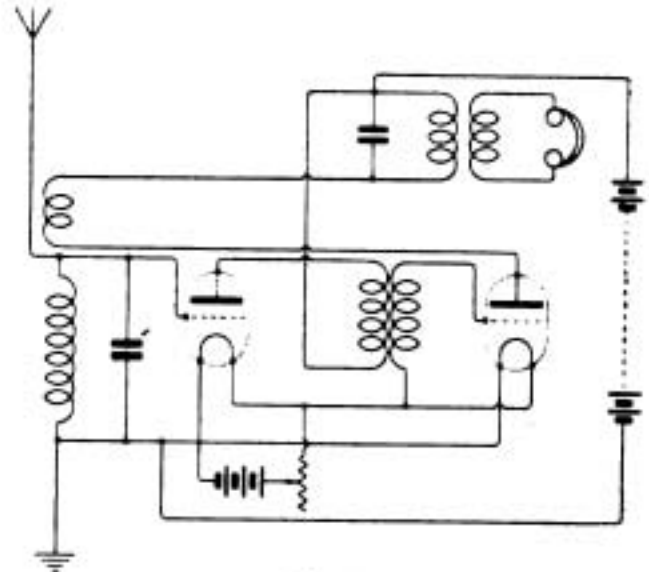

Fig. 3.
**G.A.H. (Farnborough).**—(1) Ratio of turns should be about 10-1.
(2) It is impossible to say, as carbon resistance varies considerably.
(3) We think not.
(4) The object of inserting a condenser, whether fixed or variable, in an aerial circuit, is to vary the wavelength of the circuit. It is a case of two condensers in series giving a resultant capacity less than the capacity of either condenser singly. A fixed condenser makes a fixed reduction in the capacity and wavelength, and a variable condenser gives a variable reduction.
**A.R. (Aberdeen).**—(1) See diagram Fig. 3.